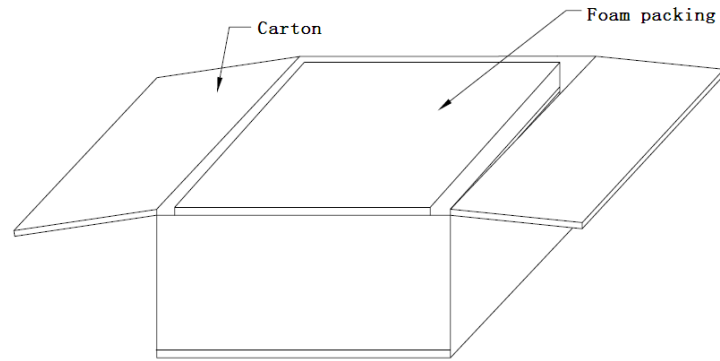

Fig.3-6 Open the carton
3. Cut the plastic packing belt and scotch tape to open the carton. see Fig.3-6).